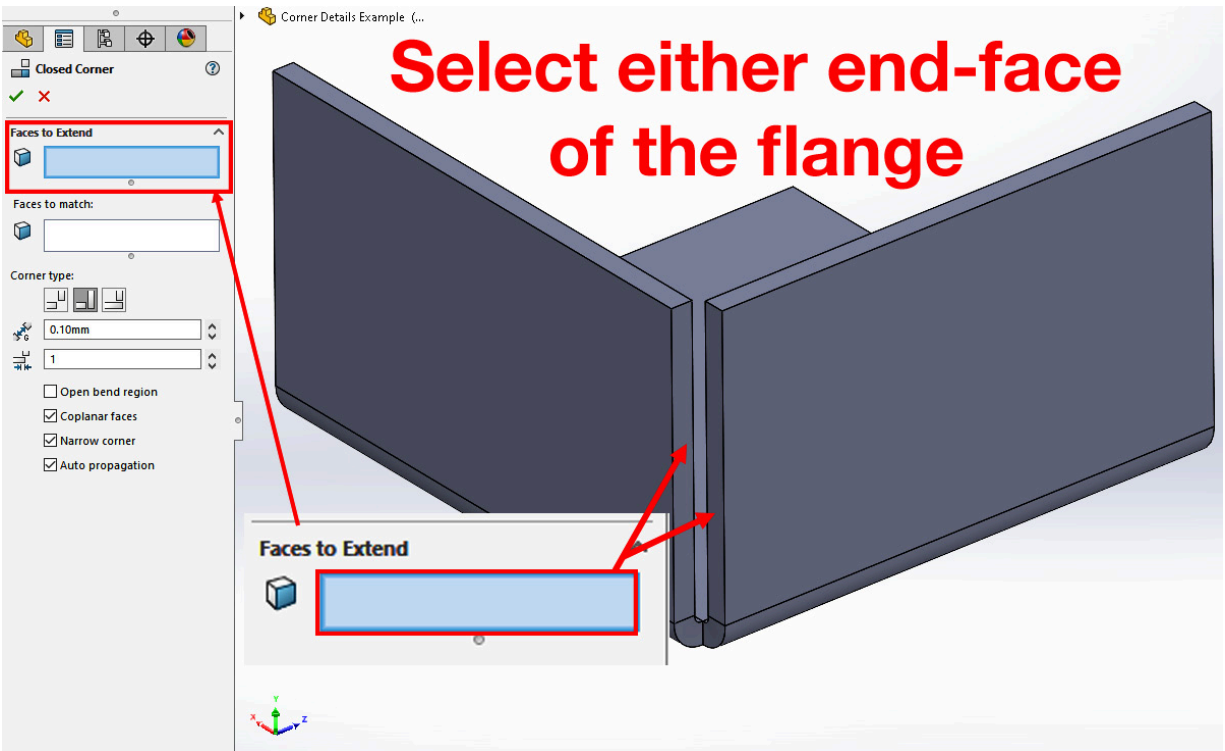

Figure 9.2: Selecting the Faces to Extend
4. First, we need to select where we want to close the gap. Ensure that you have the top selection box – **Faces to Extend** – active and then select the end face of either of the **Edge Flanges** (*Figure 9.2*):